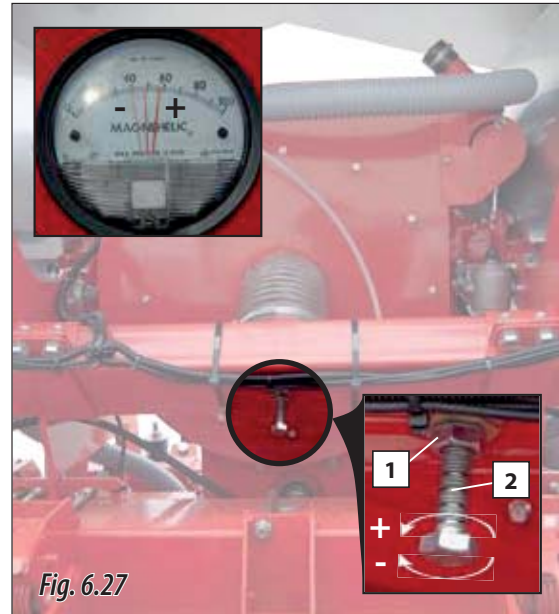

Fig. 6.27
- 1- Loosen the nut (1, Fig. 6.27).
- 2- Turn the screw to change the fan suction (2, Fig. 6.27).